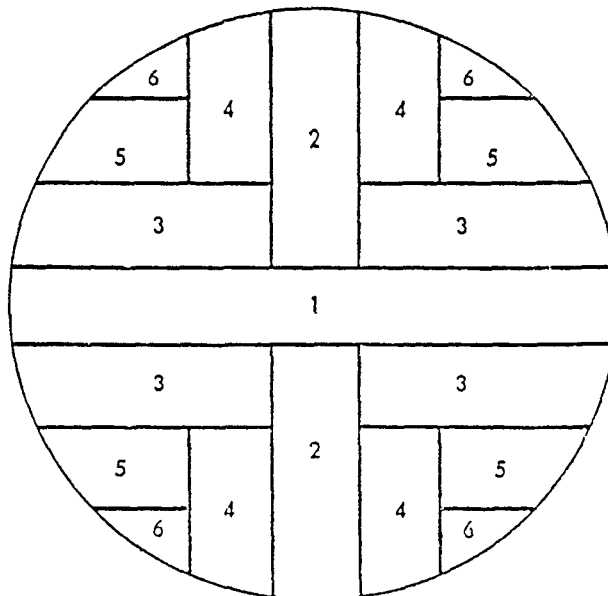

FIG 1
2.1 Calcium silicate, magnesia, or glass fiber should be applied to the dished ends of tanks and vessels in a pattern similar to that shown in Figure 1. Sections 1 and 2 are installed first. The areas are then built up in quarters in the order shown in
Figure 1. Full length blocks are used where possible. When applying magnesia or calcium silicate, a wooden mallet should be used to make the material conform to the curvature of the vessel. Wires and bands must be drawn tightly as shaping progresses. If a second layer is required, it shall be applied by rotating joints 45 degrees so that all joints are staggered with the first layer. All chipped edges, cracks, or imperfections shall be filled in smoothly with Insulating Cement, Code 502 or 502.1.
2.2 Figure 1 pattern can be used for flat heads installed on vessels 30 inches and smaller by extending shell insulation and filling voids with insulation or insulation cement.
3.2 Figure 1 pattern can be used for flat insulation heads installed on vessels 30 inches and smaller by extending shell insulation and filling joint voids with Seam Filler, Code 808.
4.2 Figure 1 pattern can be used for flat insulation heads installed on vessels 30 inches and smaller by extending shell insulation and filling joint voids with Seam Filler, Code 808.